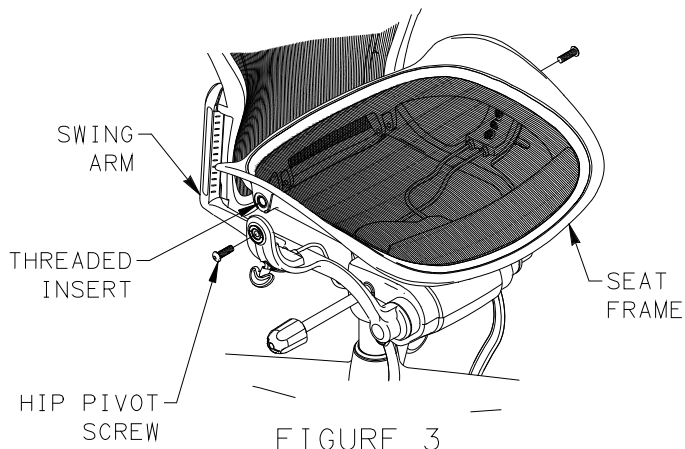

FIGURE 3
18. PLACE SEAT FRAME BETWEEN SWING ARMS ALIGNING HOLES. SECURE SEAT TO SWING ARMS WITH HIP PIVOT SCREWS. TIGHTEN AND TORQUE TO 180-200 IN-LB. SEE FIGURE 3.